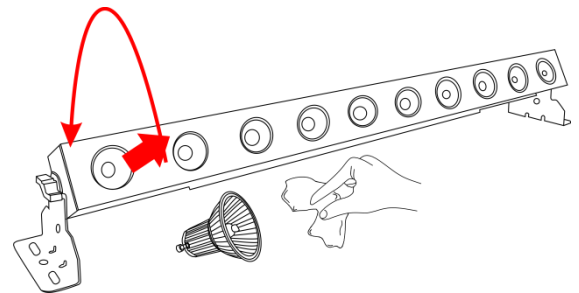

Fig.06
- 04) Push and turn the lamp counter clockwise and remove the lamp (Fig. 06).